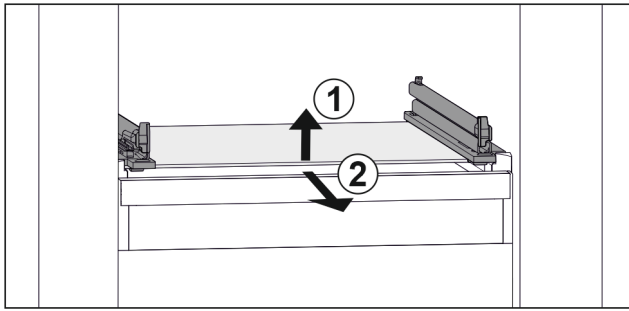

Fig. 25 Example illustration of glass shelf
- ▶ Lift glass shelf at the front. Fig. 25 (1)
- ▶ Take out glass shelf to the front. Fig. 25 (2)